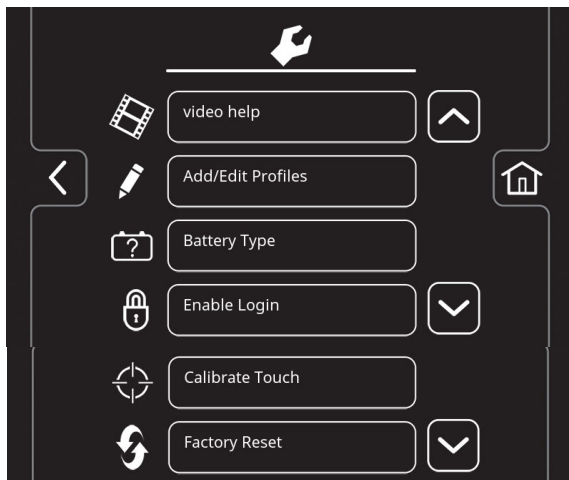

FIG. 150
- The machine's setting screen provides access to the following menu (Figure 150).